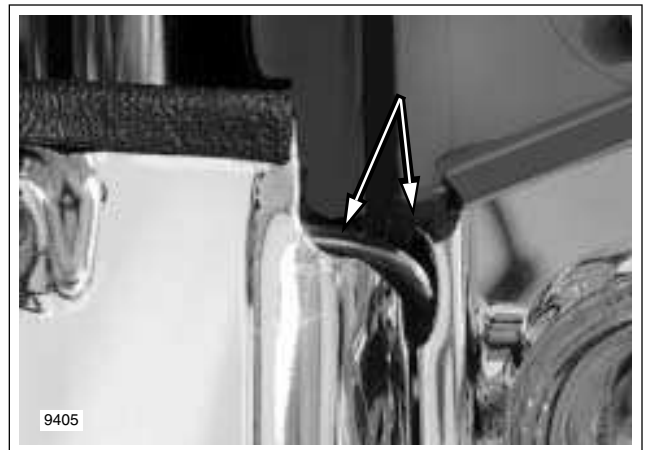

Figure 8-63. Route Conduit Thru Mounting Bracket and Chrome Skirt Reliefs (FLHX)
3. To avoid pinching wires, verify that conduit is routed forward through relief at front of mounting bracket, and then inboard using relief in upper outboard corner of chrome skirt. See Figure 8-63.